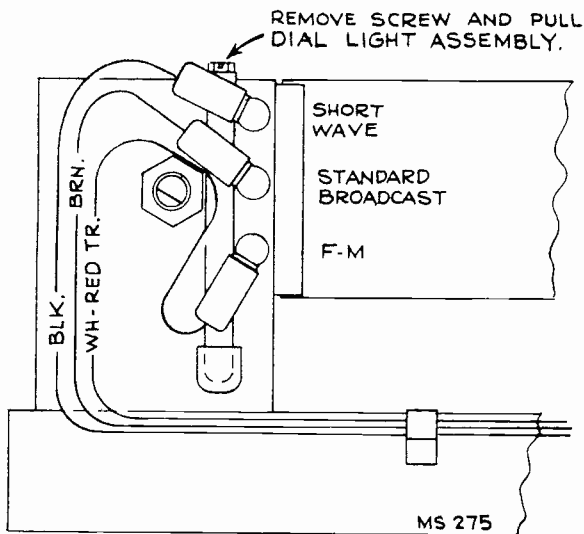

Fig. 22
5. Loosen screw and pull dial light strip (Fig. 22).